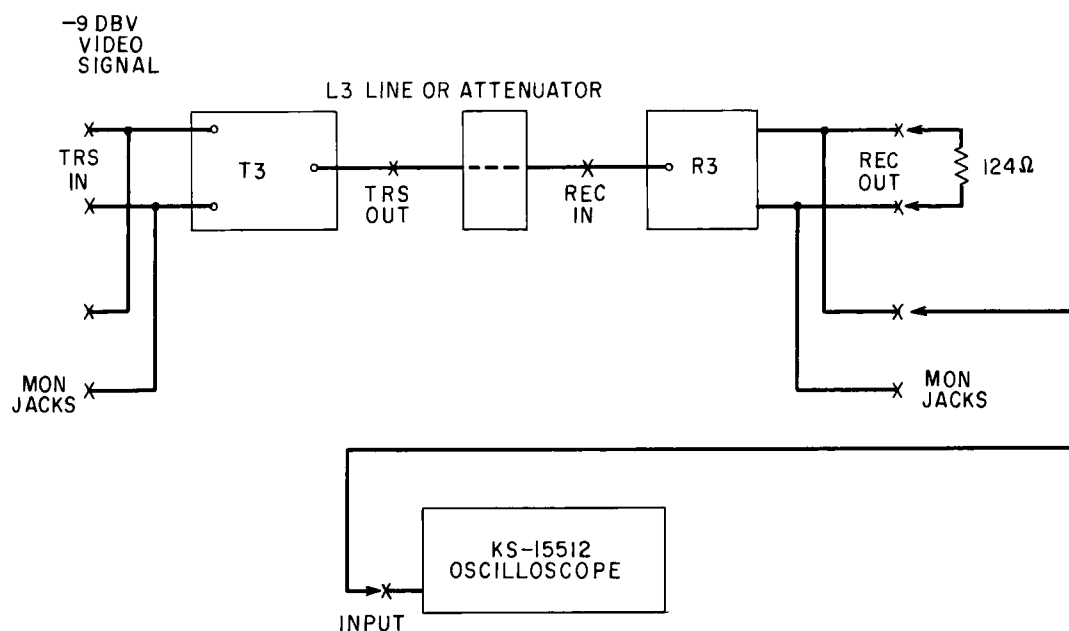

Fig. 18 – Test Arrangement for Adjusting Phase Shifter of R3 Terminal
(1) This test consists of energizing the R3 terminal with an L3 carrier signal modulated by a video signal such as a test pattern. The L3 carrier signal may be obtained from another city via the L3 line or on a local basis if a T3 transmitting terminal is available. The input video signal to the T3 terminal should be full amplitude (-9 dbv). The test signal is observed on the oscilloscope while the phase shifter screw adjustment is tuned for the best condition with the QUAD TST button pressed.
(2) Set up the test arrangement of Fig. 18.